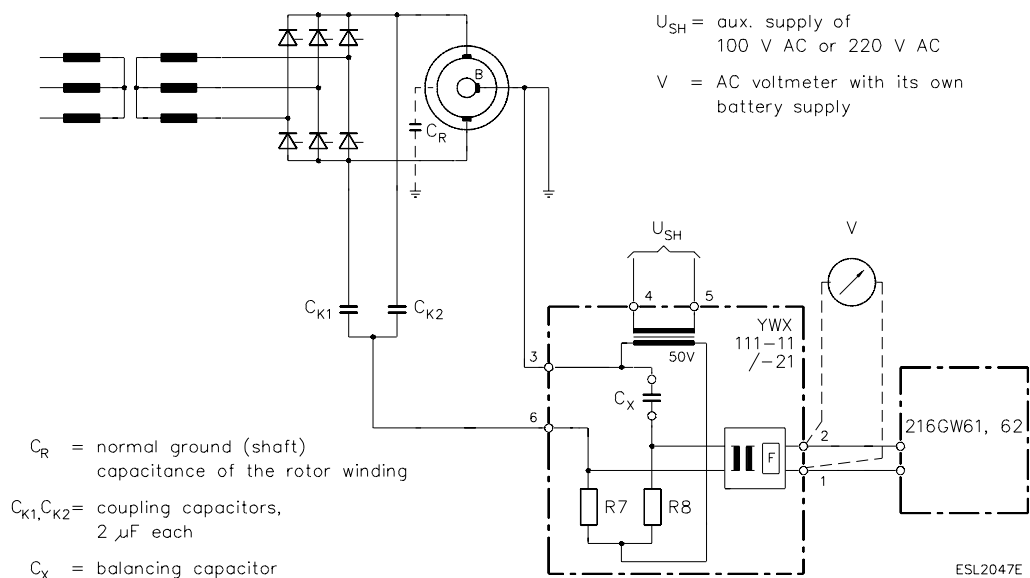
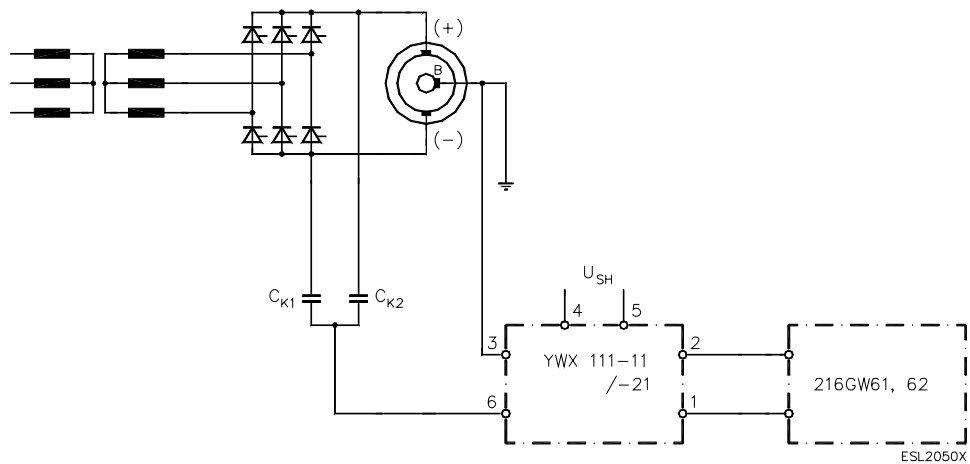

Fig. 4.7 Adjustment of the ancillary unit YWX111-11/-21
Fig. 4.10 Wiring diagram of the relay RE. 216 and ancillary unit Type YWX111-11/-21
The remaining connections must conform to Fig. 4.10 to Fig. 4.12.
a) Circuit according to Fig. 4.10 (or Fig. 4.7):
Fig. 4.10 Wiring diagram of the relay RE. 216 and ancillary unit Type YWX111-11/-21 - Connection to the d.c. part of the excitation circuit